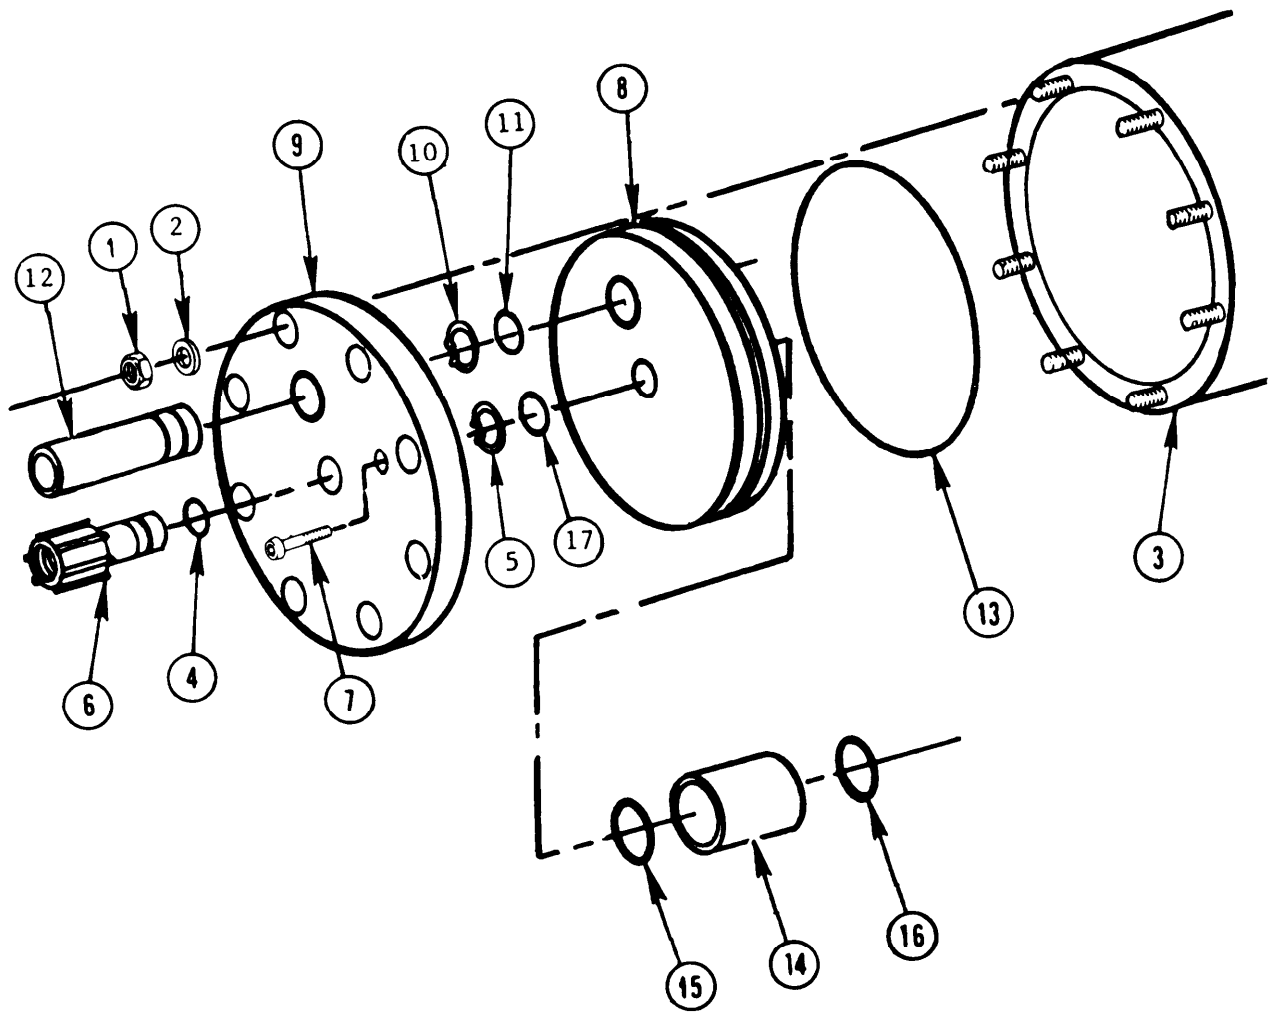

Figure 2-86. R.O. Vessel End Cap (ARMY)
e. R.O. Vessel End Assembly Removal. (Figure 2-86) (ARMY)
- (1) Remove ten nuts (1) and ten lockwashers (2) from R.O. vessel studs (3).
- (2) Remove end cap assembly from R.O. pressure vessel (3).
- (3) Unscrew Allen screws (7) from end plug (8) and end plate (9). Separate end plug (8) and end plate (9).
- (4) Remove spring clip (10) and O-ring (11) from feed port (12).
- (5) Remove feed port (12) from end plate (9).
- (6) Remove spring clip (5) from product water tube (6).
- (7) Remove product water tube (6) from end plug (8).
- (8) Remove O-ring (17) from end plug (8).
- (9) Remove O-ring (4) from product water tube (6).
- (10) Remove end connector (14) from product water tube (6).
- (7) Slide hose clamps (2) over plastic tubing (1).
- (8) Slide plastic tubing (1) over hose adapter on R.O. vessels (9).
- (9) Tighten clamps (2) over hose adapter on R.O. vessels (9).
- (10) Tighten two nuts (3).
- (11) Check all fittings for leaks.
m. R.O. Vessel End Cap Assembly Installation. (Figure 2-86) (ARMY)
- (1) Install O-ring (4) to product water tube (6).
- (2) Install O-ring (17) on end plug (8).
- (3) Insert product water tube (6) through end plug (8).
- (4) Install spring clip (5) on product water tube (6).
- (5) Insert feed port (12) through end plate (9) and install spring clip (10).
- (6) Install O-ring (11) in slot on end plug (8).
- (7) Put together end plug (8) and end plate (9) and secure using Allen screws (7).
- (8) Install O-ring (13) on end plug (8).